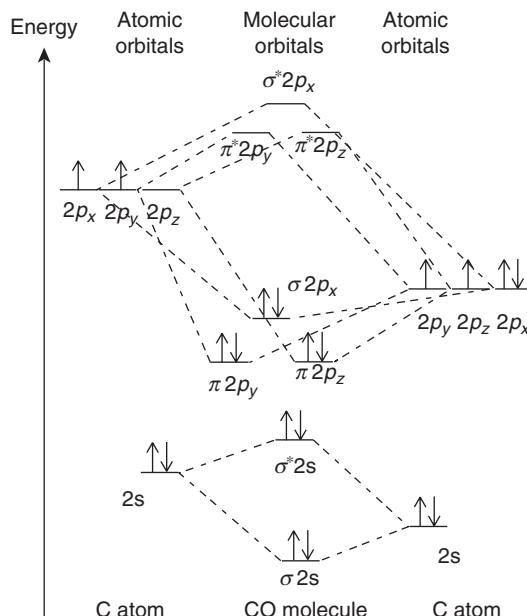

Figure 28 MO diagram of CO.
3. **CO molecule:** The MO diagram (Figure 28) for the diatomic carbon monoxide (CO) shows that it is isoelectronic with nitrogen (N_2).